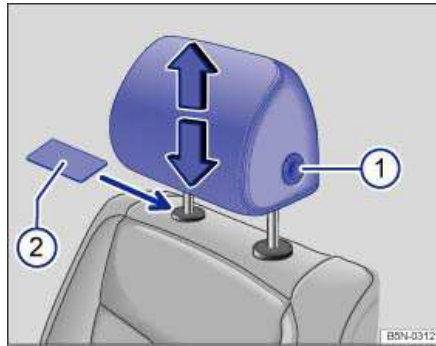

Fig. 49 Removing the front head restraints.
- Slide a flat object, such as a plastic credit card, underneath the right side of the cap on the right hand seat guide rod ⇒ fig. 49 (2) to unlock the head restraint.
- To release the left-hand guide rod, press button (1) in (towards guide rod) and hold.
- Pull the head restraint out completely while holding button (1).